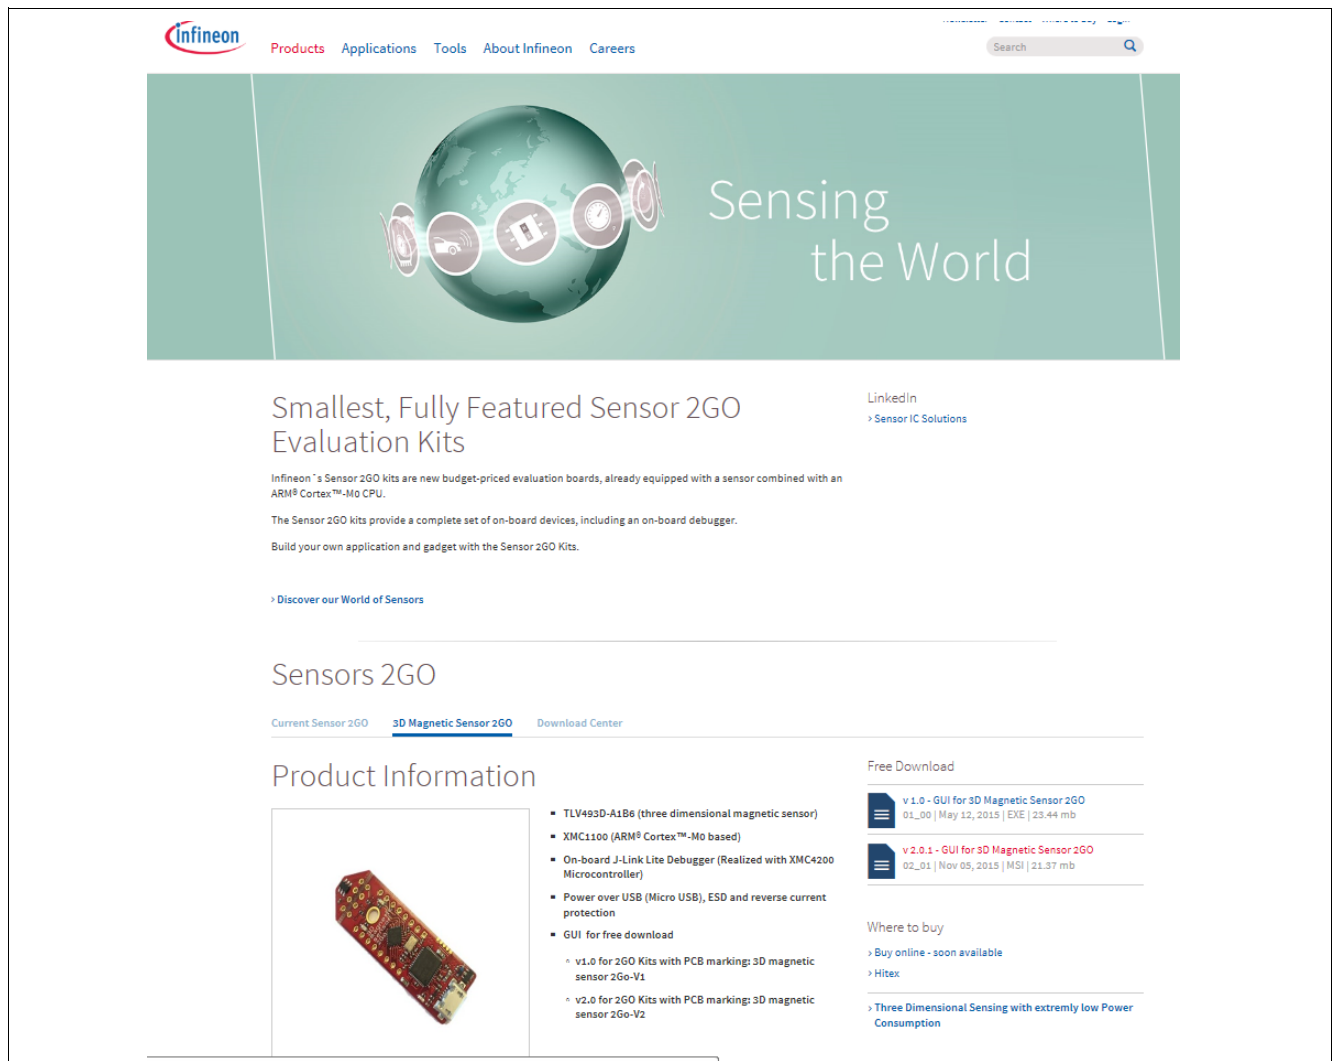

Figure 11 Download “3D Magnetic Sensor 2 Go” software
Step 1: Enter the Infineon web to access the software. The link to the software is mentioned in Chapter 1.2, the web looks like in Figure 11. Double click to the software link to start the download.